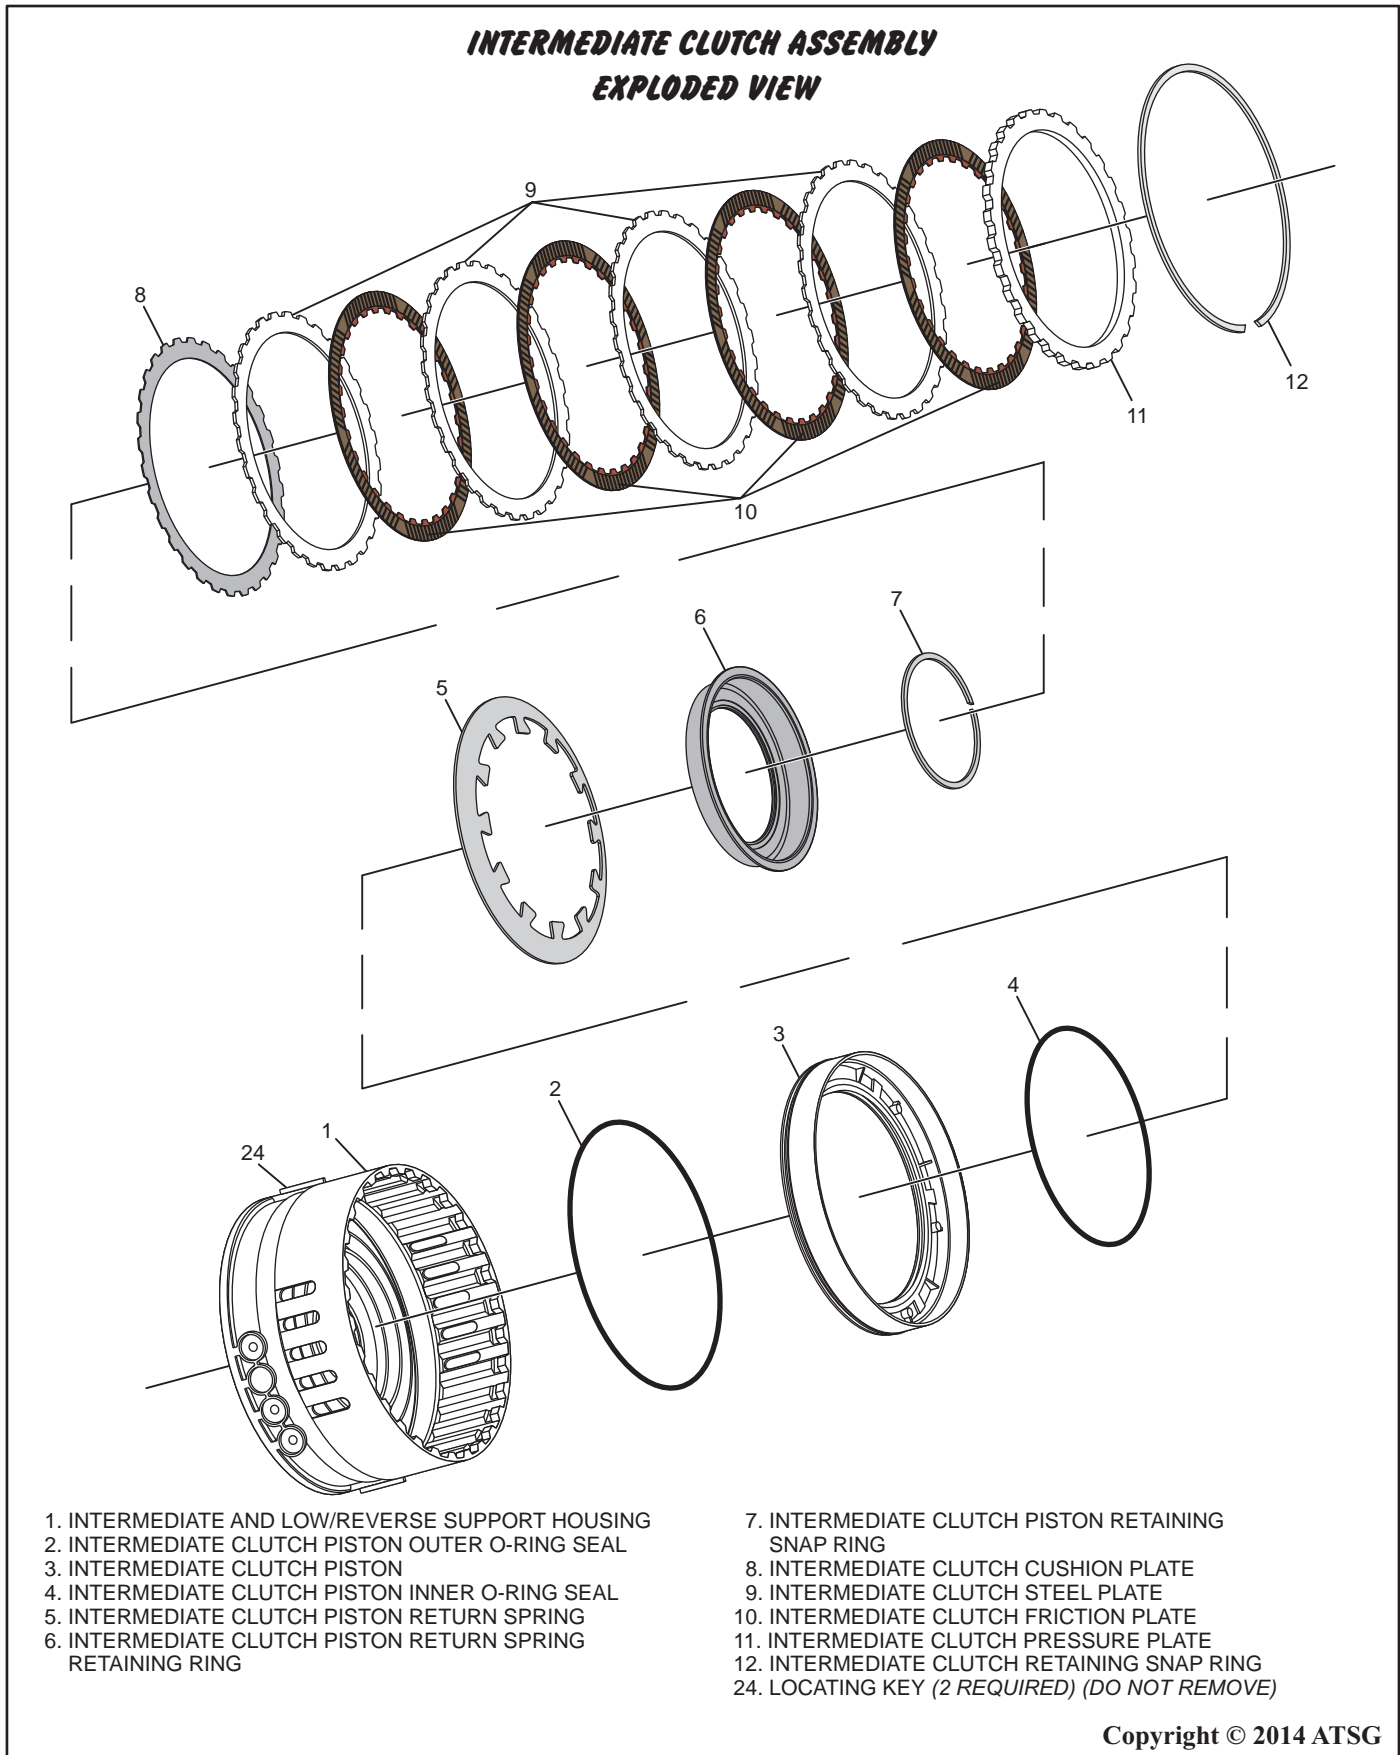

Figure 104
1. Disassemble the intermediate and low/reverse clutch support using Figure 104 as a guide.